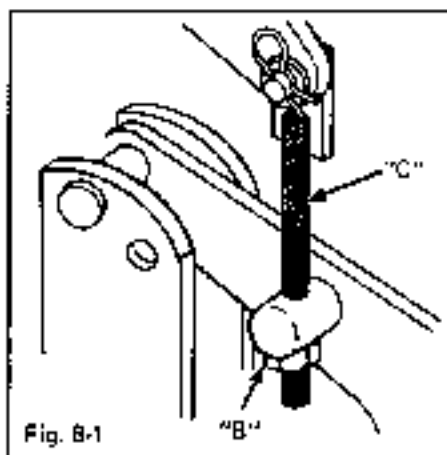

Fig. 8-1
Position stop nuts (B) Figure 8-1 on lift links flush with bottom of pivot stud (C). Turn up on the studs until desired height is obtained.